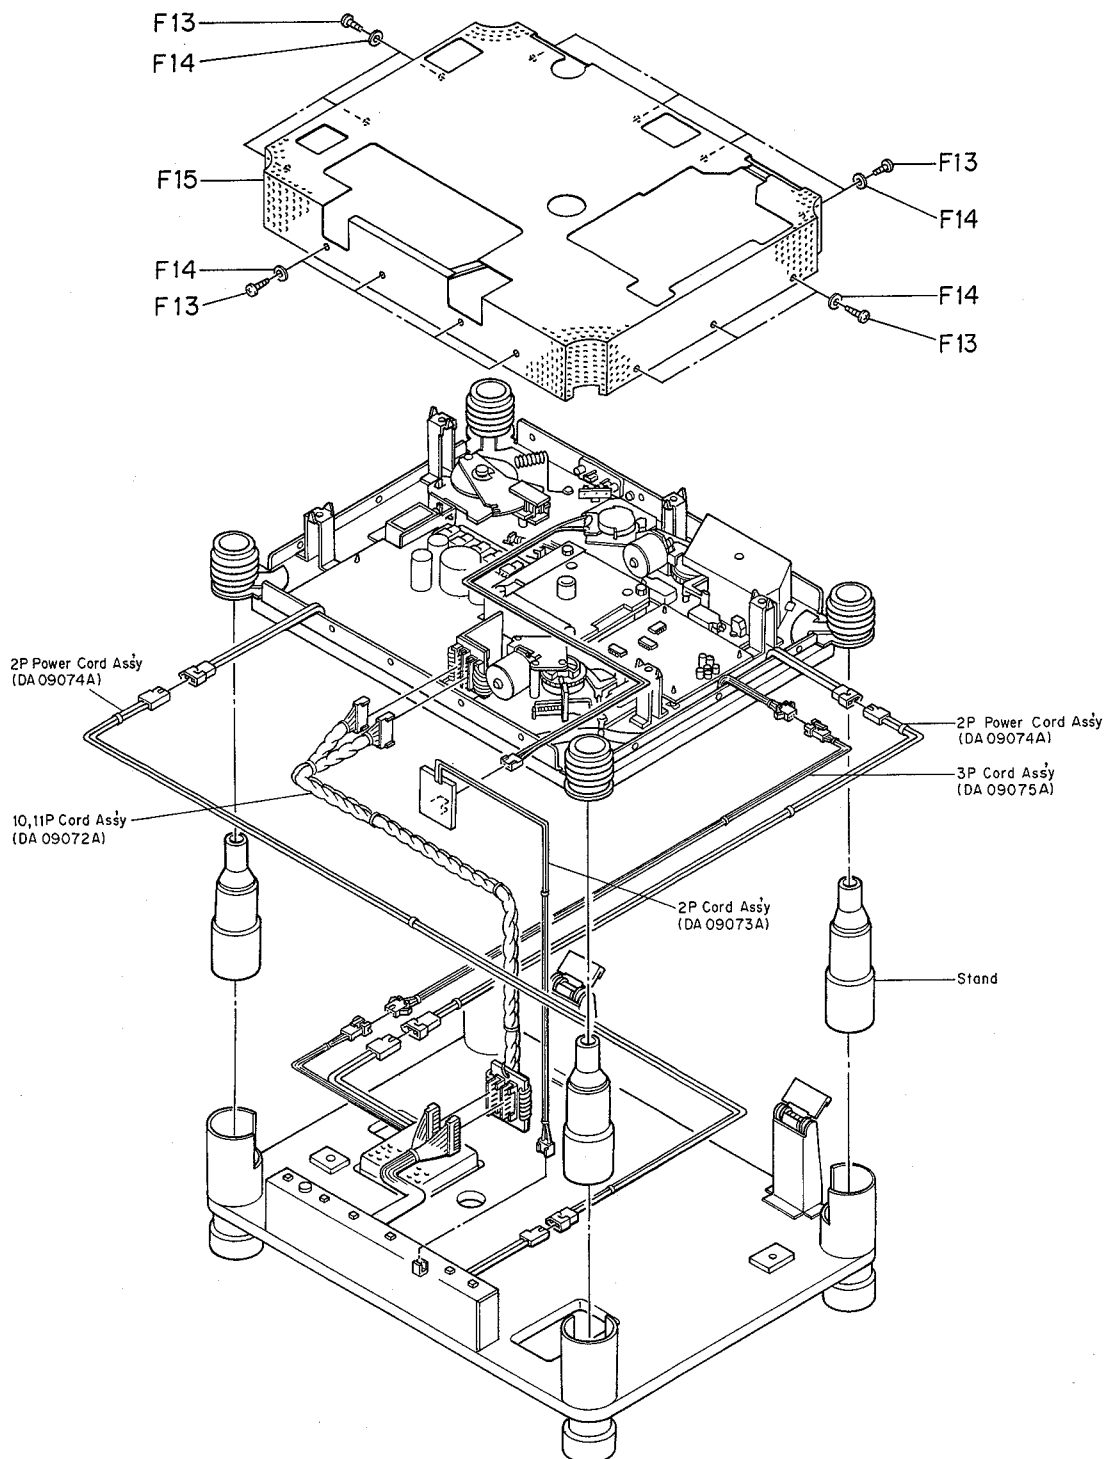

Fig. 3.3
- (1) Lift up the Top Board with hands and insert four Stands (OD09023A) in the Insulator Housing at every corner of the Bottom Board. Refer to Fig. 3.3.
- (2) Turn over the Top Board as shown in Fig. 3.3 and carefully
- (3) Remove F13, F14 and F15.
- (4) Connect five connector cables (DA09072A, DA09073A, DA09074A (2 pcs.) and DA09075A) between the Top Board and the Bottom Board.